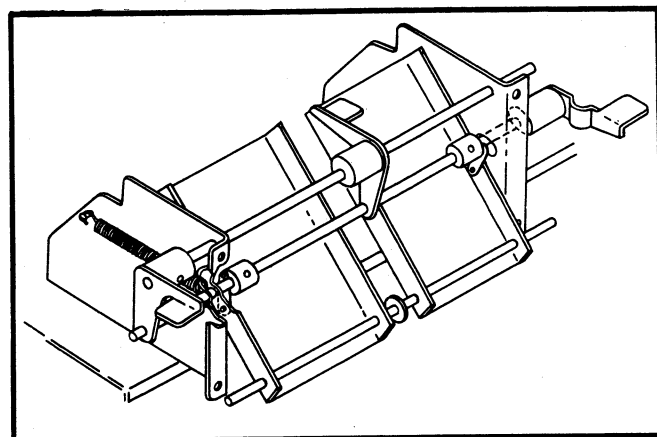

Figure 2. Correct Installation of Tilt Mirror Assembly
(6) Be sure to turn right and left control knob fully into the main casting before installing the side knobs. This will permit the control shafts to travel through their entire adjusting range.
(7) Correct procedure for reinstalling tilt mirrors and linkage system into the main frame (see Figure 2) requires careful attention to these instructions. First insert the straight shaft into the main frame from the slots in the brackets, attaching the mirror assembly cams and corrective bracket assembly in position. The grooved end of the shaft must protrude from the right hand side (viewed from the rear of the unit). One spring (Figure 8-16) must be attached on each end of the shaft, from the shaft to its retaining screw in the bracket. Then lock the shaft in place by placing an "E" ring (Figure 8-20) in each of the two grooves in the shaft (one on each side of the left hand bracket). Next, place the straight bracket assembly (Figure 8-108) on the right hand side of the shaft - with the hub of the bracket flush with the end of the shaft. Now, install the correction bracket and shaft (Figure 8-102) from the left hand side of the unit so that it engages the bracket (Figure 8-109) which was previously attached to the straight shaft; lock in place with "E" rings in grooves provided on each side of the right hand bracket. Be sure that the mirror cam linkages are in opposite directions. Hold the tilt mirrors parallel to each other; then, lock the straight bracket and shaft assemblies by tightening the set screws of the cams, brackets and correction bracket.